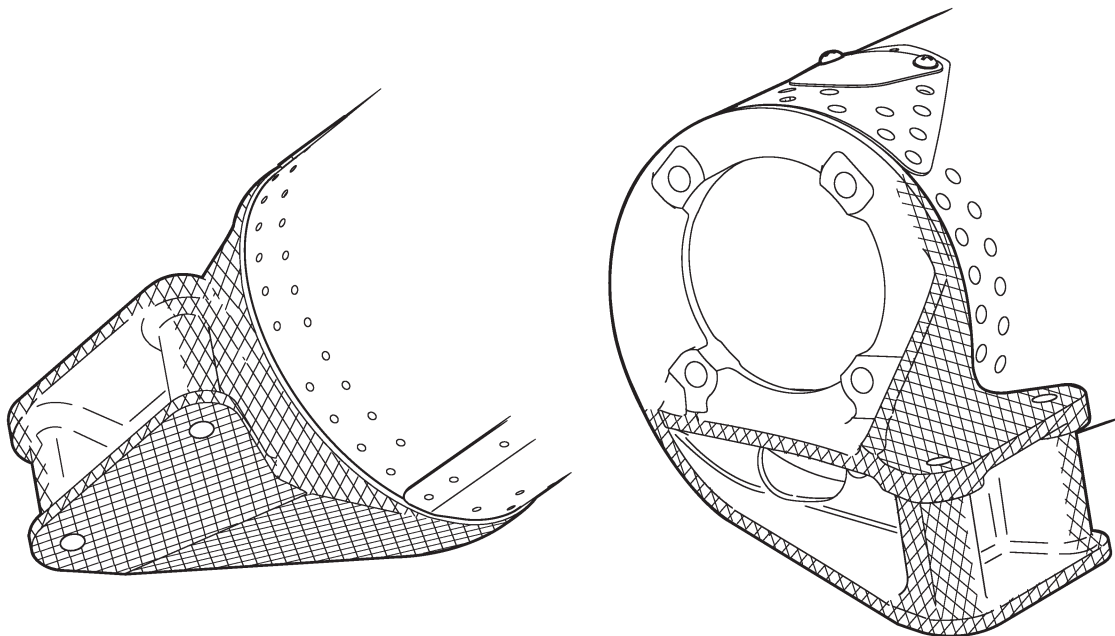

FIGURE 2-18 CROSS-HATCHED SURFACES OF TAILCONE'S AFT C148 BULKHEAD
1. On associated tailcone's aft C148 bulkhead, strip paint from cross-hatched surfaces shown in Figure 2-18 using § 23-71 approved materials.